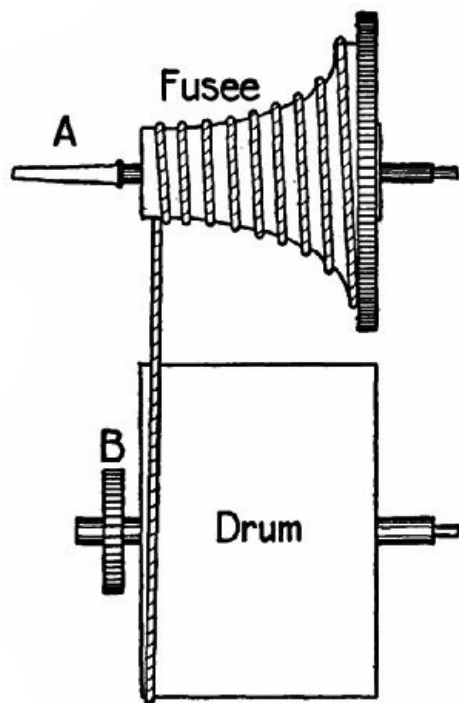

FIG. 201.
*Weights* are used only in large clocks, such as one finds in halls, towers, and observatories. The great advantage of employing weights is that a constant driving power is exerted. *Springs* occupy much less room than weights, and are indispensable for portable timepieces. The employment of them caused trouble to early experimenters on account of the decrease in power which necessarily accompanies the uncoiling of a wound-up spring. Jacob Zech of Prague overcame the difficulty in 1525 by the invention of the *fusee*, a kind of conical pulley interposed between the barrel, or circular drum containing the mainspring, and the train of wheels which the spring has to drive. The principle of the "drum and fusee" action will be understood from Fig. 201. The mainspring is a long steel ribbon fixed at one end to an arbor (the watchmaker's name for a spindle or axle), round which it is tightly wound. The arbor and spring are inserted in the barrel. The arbor is prevented from turning by a ratchet, *b*, and click, and therefore the spring in its effort to uncoil causes the barrel to rotate.